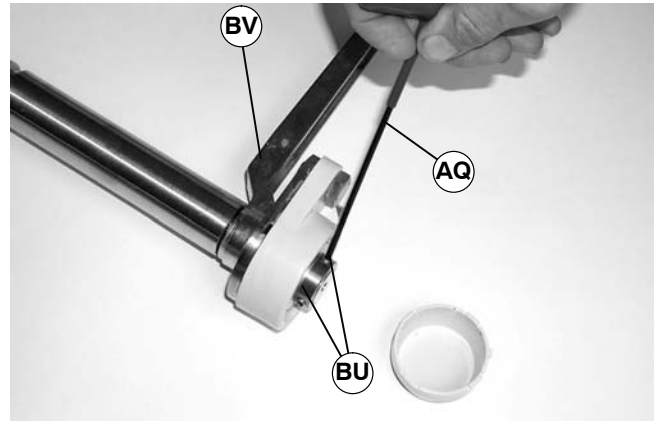

Figure 43
- Using a 3mm hex key wrench (AQ of Figure 43), loosen two set screws (BU) on bearing and head plate assembly (BV).
8. Using a 3mm hex key wrench (AQ of Figure 43), tighten two set screws (BU) on each bearing and head plate assembly (BV).